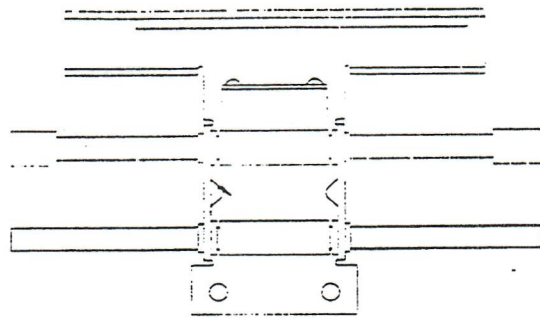

FIGURE 6
3. After the removal of the four screws, the COIL/SLIDE ASSEMBLY (P/N A-19070) can be removed from the mini playfield assembly (See Fig. 6).